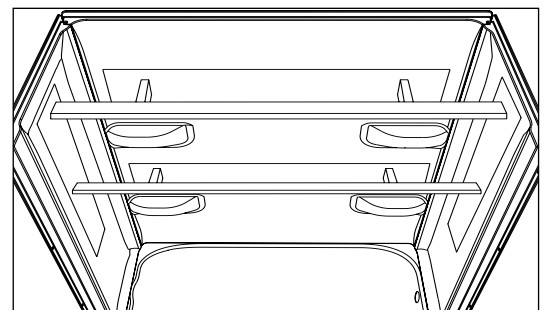

FIGURE 9. Apply pressure by cross bracing left and right panels while also applying pressure to the back panel.
- Apply pressure to panels while adhesive dries with cross bracing (Fig. 9). Panels must be held tight to studs during drying process.